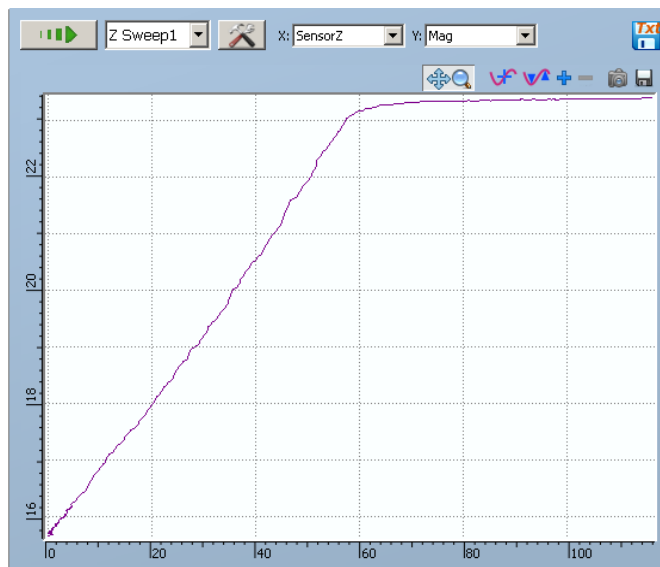

Figure 3.6.2.4 Mag(Z) dependence during the landing
After landing, the Curves View window displays the so-called "landing curve" – the Mag (Z) dependence (fig. 3.6.2.4) and the “landing completed” message appears in the information box.